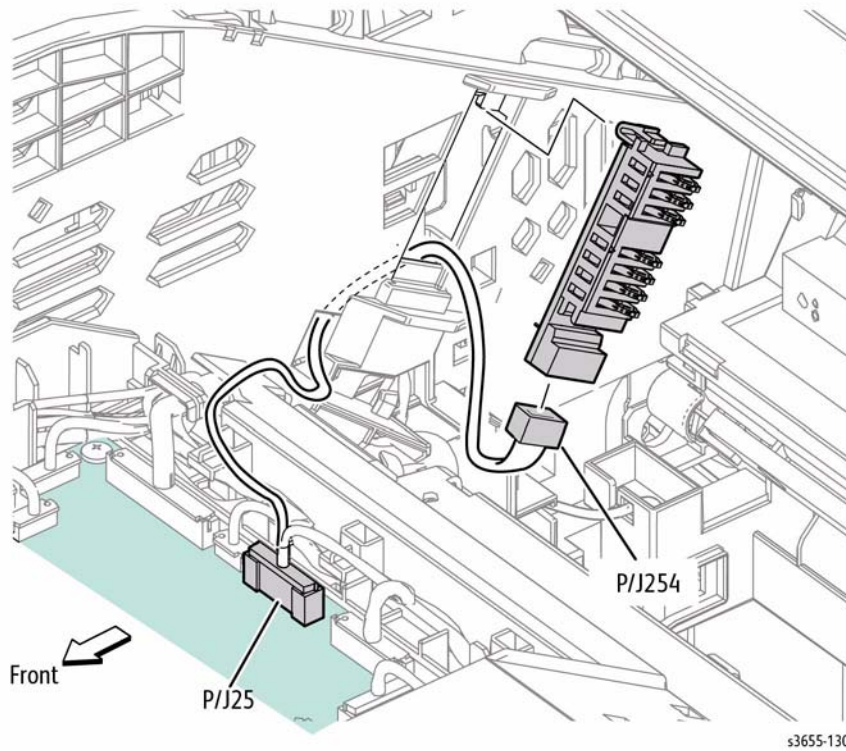

Figure 2 Remove the Xerographic Connector
- Refer to Figure 2 to locate and release the clip at the top of the connector and release the Connector harness from the chassis by gently pulling enough slack to disconnect the connector and remove.